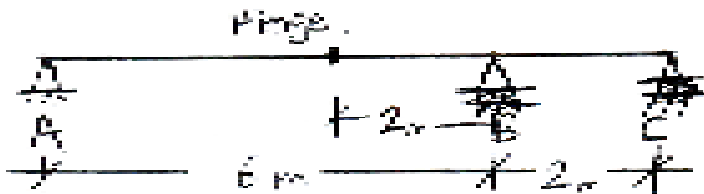

Fig. 17
- 10. a) A beam structure is shown in the Fig. 17. Draw the ILD for following :